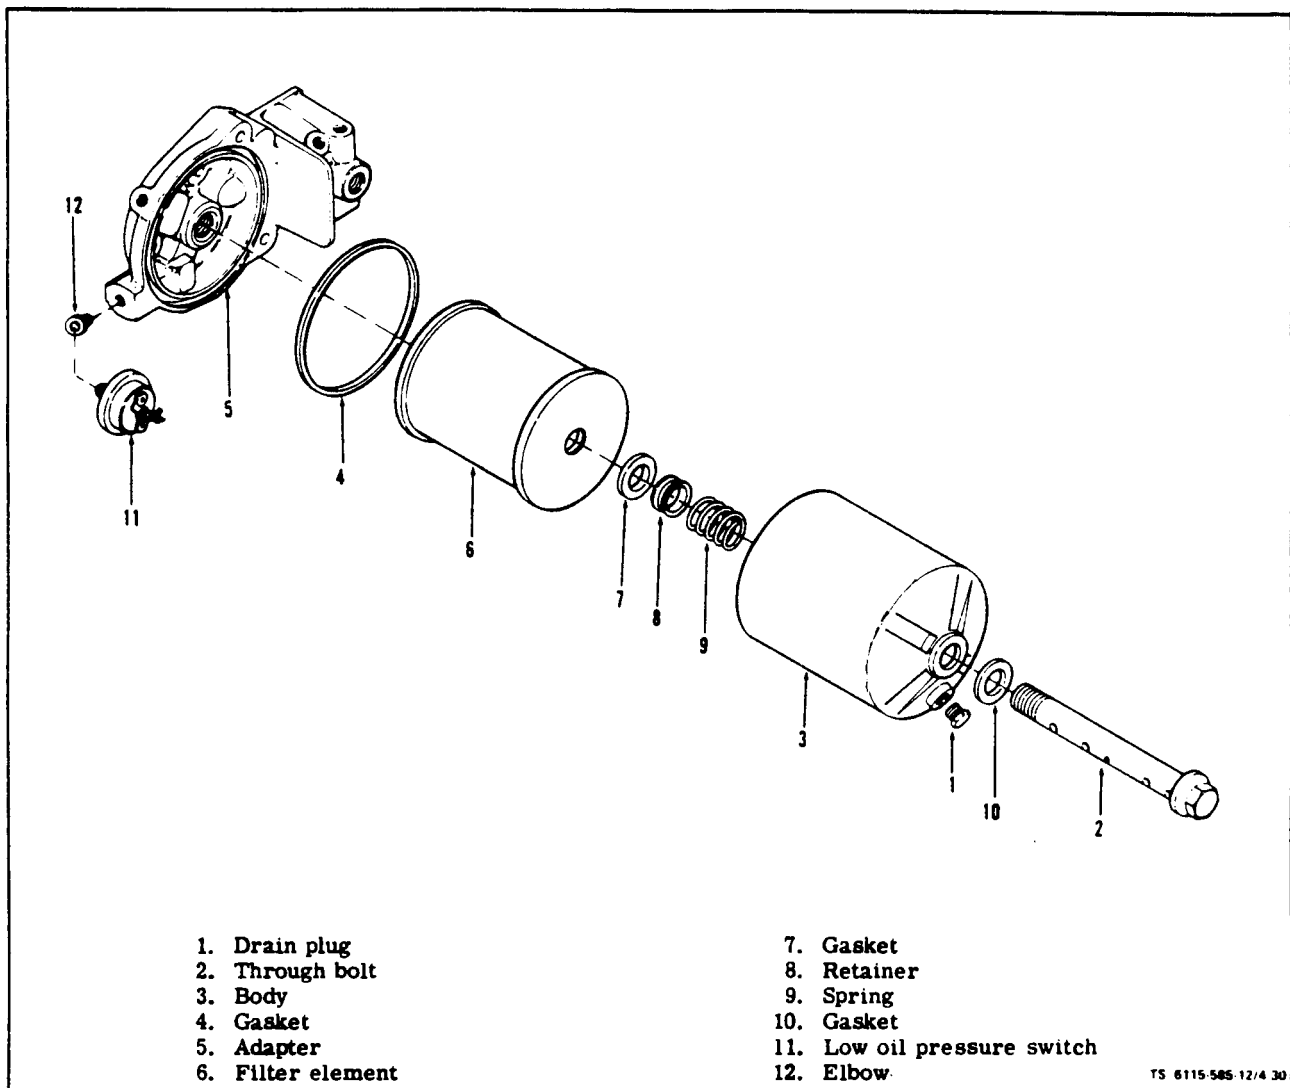

Figure 4-30. Oil Filter Assembly
a. Test on Equipment (see figure 4-30). With master switch in off position, disconnect leads from terminals 1 and 2. Use ohmmeter to check for continuity between terminals 1 and 2 of switch. If continuity is indicated, replace switch. Connect leads to switch terminals 1 and 2.
b. Removal. Disconnect leads from terminals 1 and 2. Use wrench on square portion at base of switch (11) and remove from adapter (5).
a. Service (see figure 4-30). Every 100 operating hours replace oil filter element. Clean inside of bowl while filter is removed. Replace defective hoses.
b. Remove. Drain oil filter into suitable container by removing drain plug (1). Loosen through bolt (2) and remove body (3). Remove and discard filter (6) and gasket (4).
c. Replace. Clean filter mounting area in adapter (5) and inside of body (3). Install new element (6) in body (3). Install new gasket (4) in groove of adapter (5). Position body (3) (drain down) with element installed on adapter (5) and secure with through bolt (2). Tighten through bolt 10 to 15 ft-lb dry.